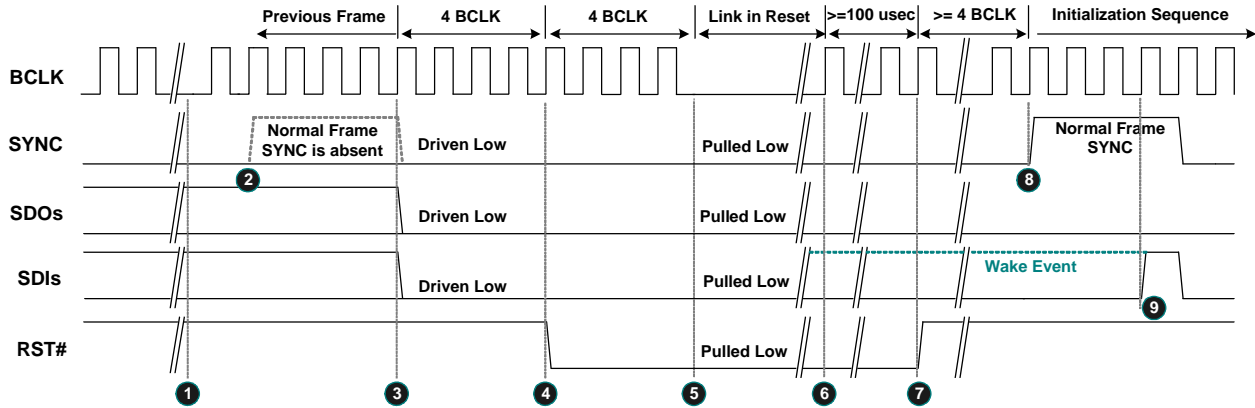

Figure 14. Link Reset Timing
3. Software initiates power management sequences. Figure 14, shows the 'Link Reset' timing including the 'Enter' sequence (①~⑤) and 'Exit' sequence (⑥~⑨)